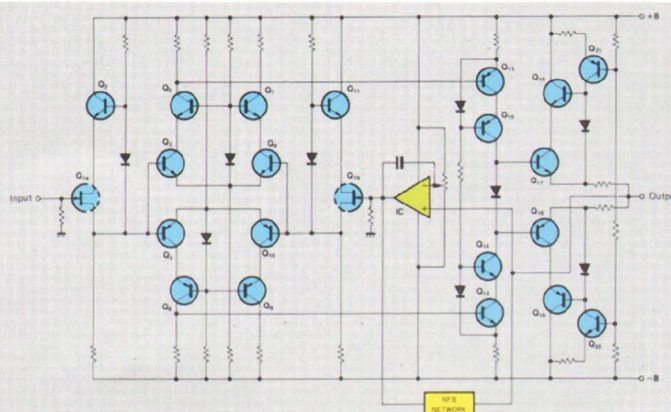

Fig. 1 Basic Diagram of Unit Amplifier
Fig. 1 is the circuit diagram of the equalizer amplifier and high-level amplifier. This ideal amplifier circuit consists of a cascode amplifier and Class-A push-pull circuits at every stage, an Accuphase tradition. This further improves desirable amplifier characteristics to the utmost limits before negative feedback (NFB) is performed. The cascode amplifier consists of two elements (transistors) vertically connected so that the two elements operate as one. This arrangement increases the input impedance, gain and simultaneously enhances the high-frequency characteristics. In addition, linearity is maintained until the operating limit of the elements is reached, resulting in decreased distortion, improved signal-to-noise ratio, and realization of the ideal characteristics of an amplifier circuit. The Class-A push-pull circuitry further improves the characteristics.
The diagram in Fig. 1 may give you the impression that the circuit is quite complicated. However, it basically consists of only three stages: 1) the "cascode push-pull differential amplification stage" (transistors Q1 to Q11), 2) the driver stage (transistors Q12 to Q15), and 3) the output stage (transistors Q16 to Q21). These three stages assure high circuit stability.
The IC in Fig. 1 is the "DC servo circuit" that keeps the output signal to the zero potential by detecting and feeding back to the input the DC component generated in the output. In other words, it prevents DC drift. The IC enables direct coupling of all the signals from the analog disc (LP) input to the output and thus helps produce high quality sound that carries no trace of coloration.
The basic circuit configuration of the equalizer amplifier is shown in Fig. 1. Since the level of the signals to be processed is very weak, they are easily affected by inherent noise. Therefore, low-noise field effect transistors (FETs) are carefully selected for the input.